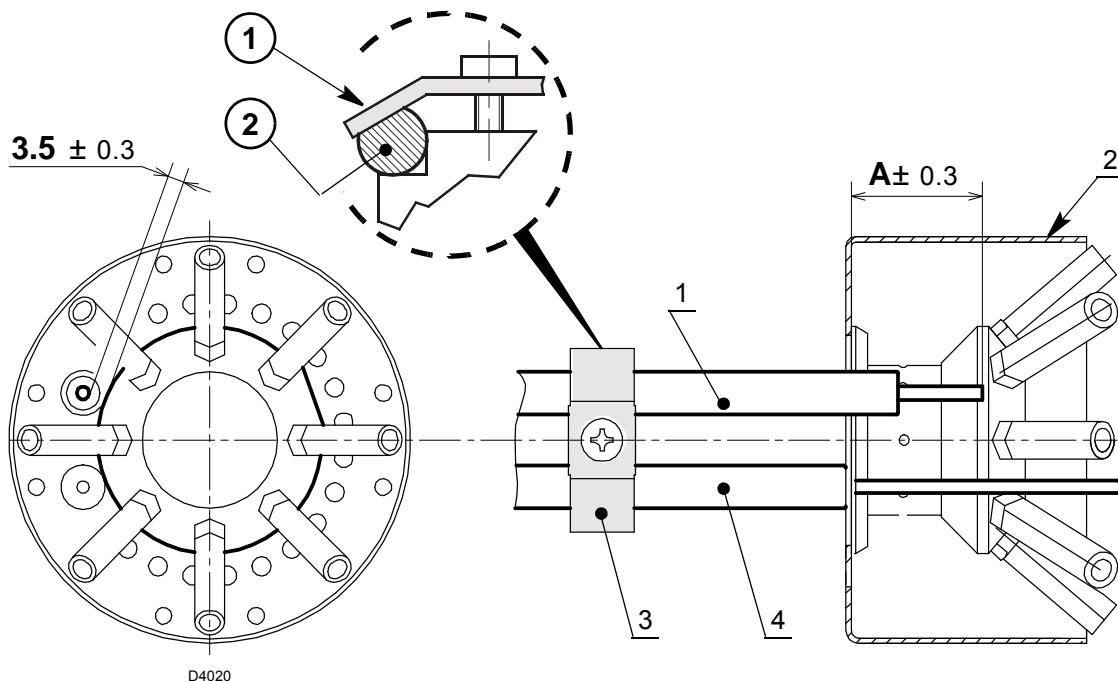

Fig. 13
- Make sure that the plate 3(Fig. 13) is always inserted in the flattening of the electrode 1).